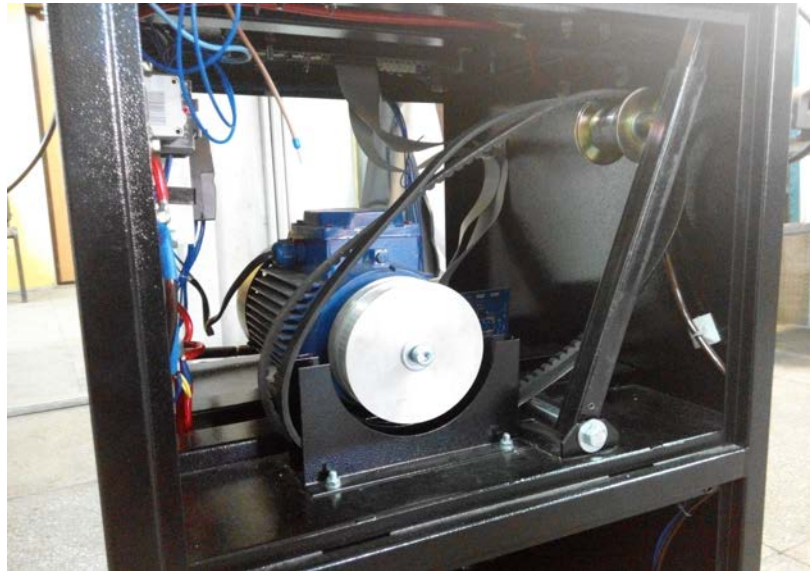

Figure 3.
- mounting plate for electric-powered drive and the drive belt tensioner fastening (Figure 3);
1.4.4. Electromechanical drive (Figure 3) transmits torque through the belt increaser from the asynchronous motor pulley (AIR type) to the rotor pulley of the generator under test.